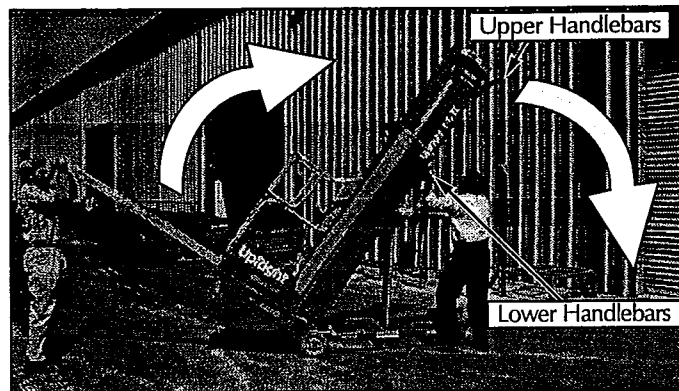

Figure 3-15: Compressing the Gas Springs
8. While another person lifts up on the outrigger, pull down first on the lower handle bars, then on the upper handle bars to lower the unit until the gas spring assembly is compressed (fig. 3-15). **DO NOT** stand under the machine while performing this operation.